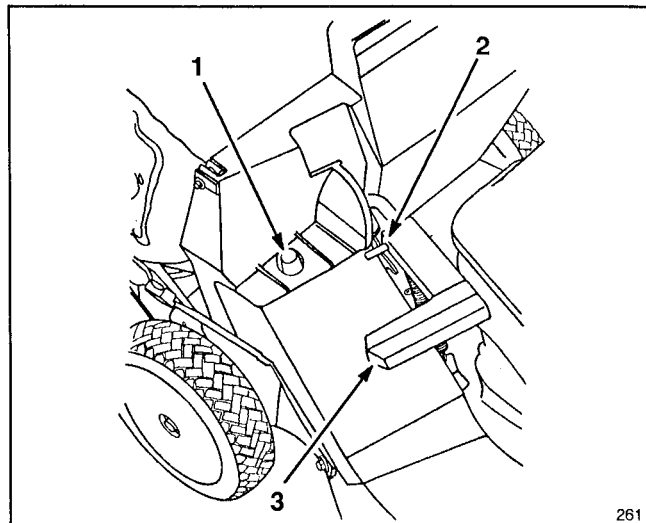

Figure 13
2. Ensure discharge door handle is fully forward and pin is engaged in catch (Fig. 13).
3. **INSTALLING BAG**—Slide hole in bag frame onto retaining post on housing (Fig. 13) and set rear of bag frame onto lower handle.
5. EMPTYING BAG—Stop engine and wait for all parts to stop. Raise discharge door handle and move it forward to engage the locking pin with catch (Fig. 13). Grasp handle at front and rear of bag and lift bag off mower. Gradually tip bag forward to empty clippings.